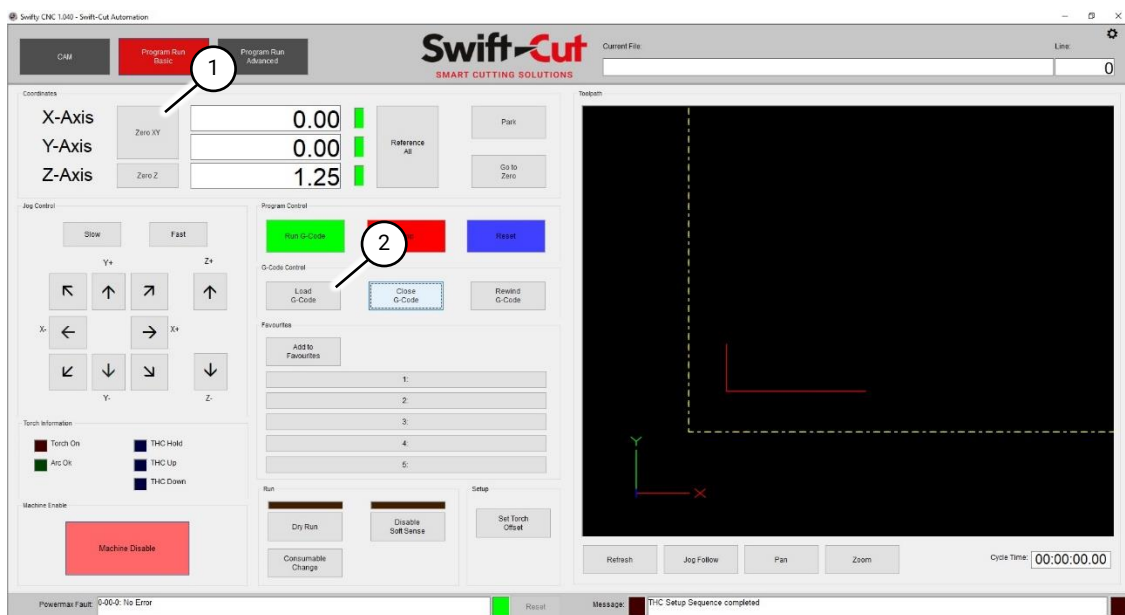

Fig 66 Zero XY button
2. When in position, press the Zero XY button (Fig 66 (1)). This sets the X and Y position readouts to 0. The g-code file will start cutting from this position.
3. Press the Load G-Code button (Fig 66 (2)).